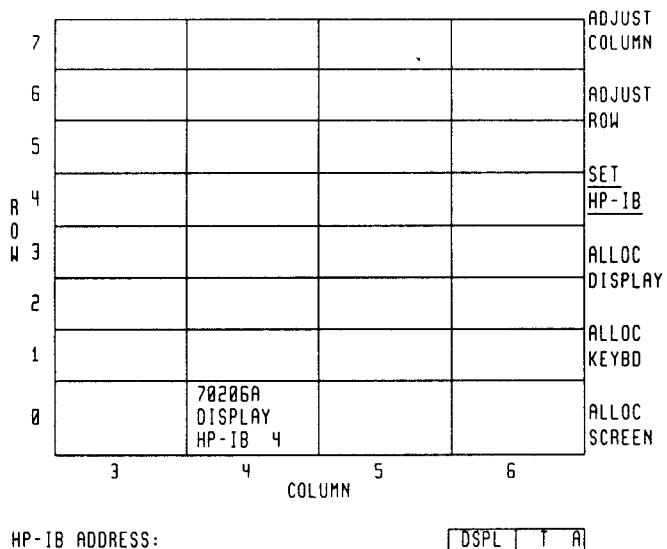

Figure 2-10. Adjust Column
4. Turn the display knob so that the cursor box stops on the display as in Figure 2-10.